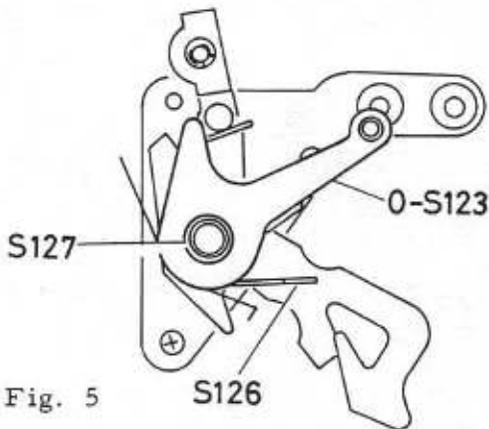

Fig. 5
- * Refer to Fig. 5 for installation.